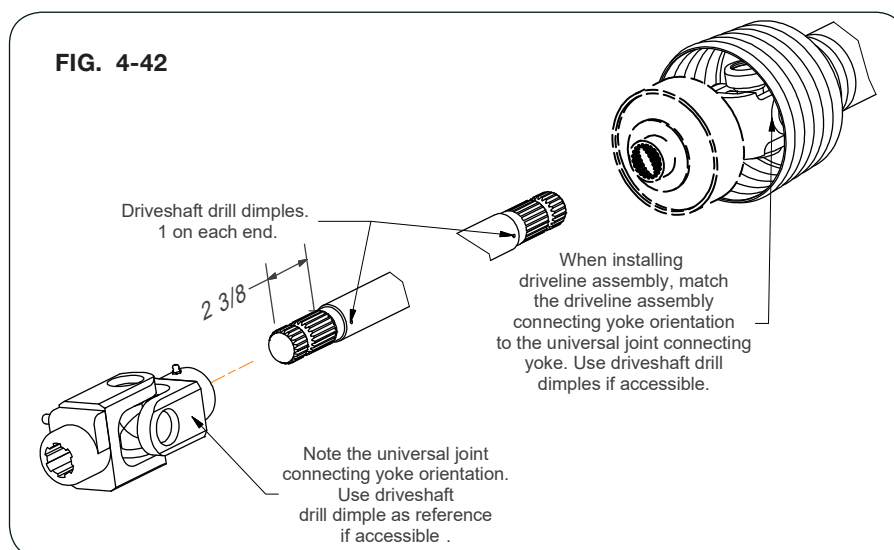

FIG. 4-42
11. Slide driveshaft down into the universal joint attached to the gearbox until the end of the shaft extends into the universal joint about 2 3/8". Ensure universal joint and driveshaft splines completely engage. Verify the hitch end for adequate length for driveline assembly to connect. (FIG. 4-42)